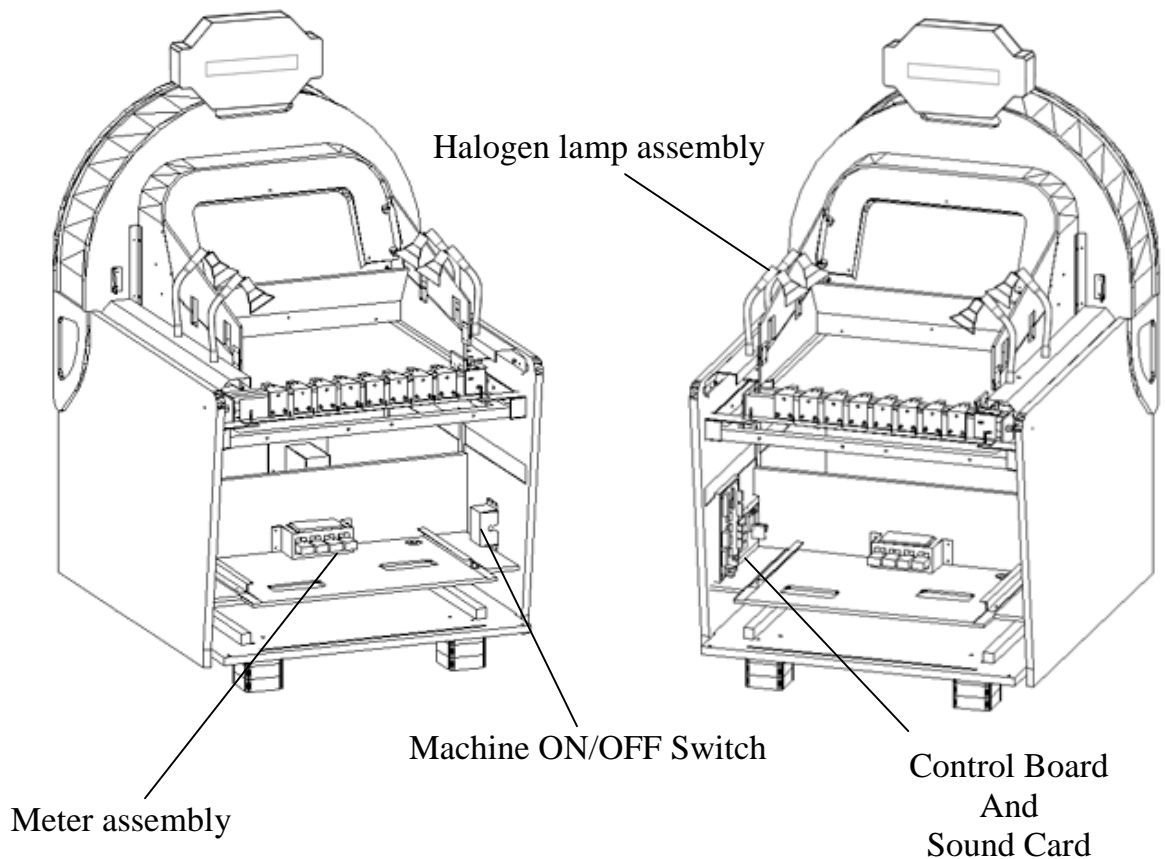

Figure 4 Machine front view
2. Connect the machine to the mains electrical supply as shown in figure 4.